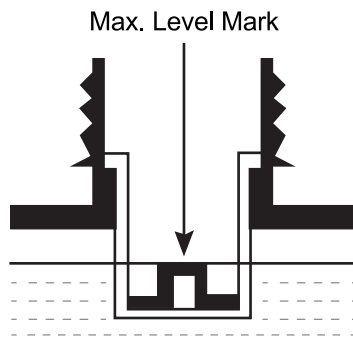

Fig. 3B
- Do not overfill the fuel tank (there should be no fuel above the upper limit mark Fig. 3B).